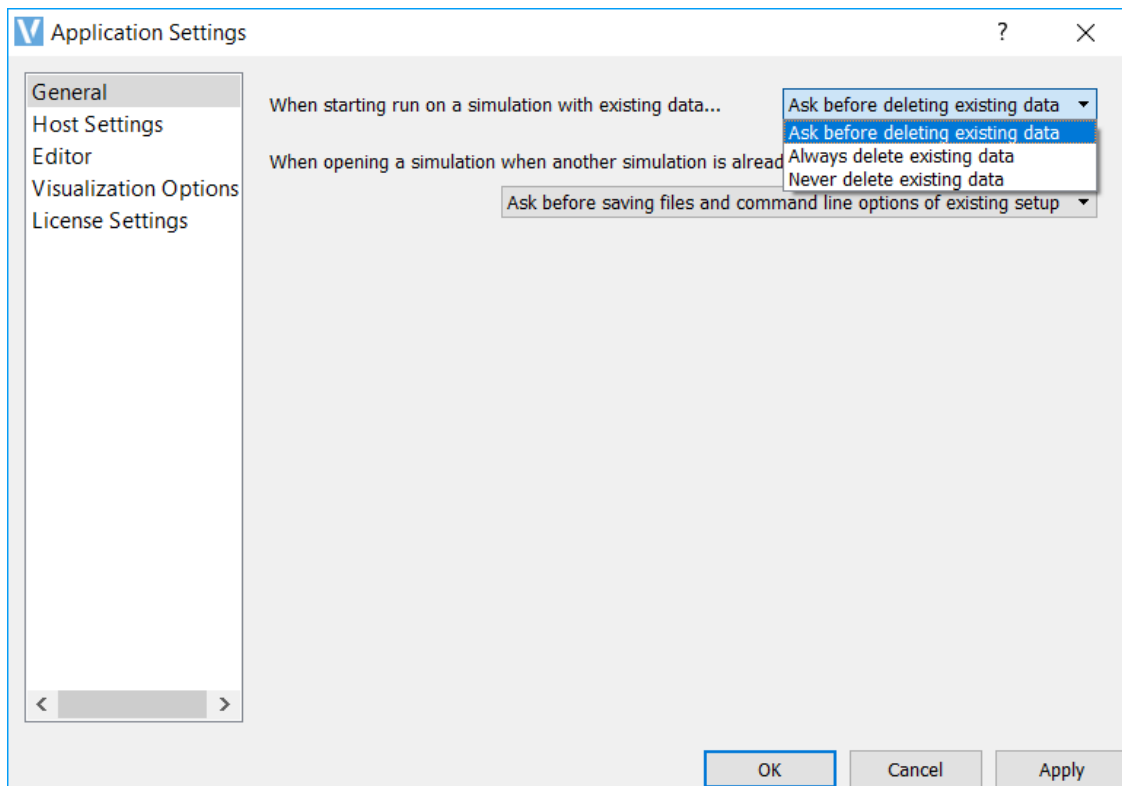

Fig. 4.13: Application Setting When Starting Run on a Simulation with Existing Data
- When starting run on a simulation with existing data, the default setting that VSimComposer will use when starting a simulation that already contains data is *Ask before deleting existing data*. If you know that you will always want to create fresh data for each run, use the pulldown menu to set the default to *Always delete existing data*. If you know that you will always want to run on the data already available, use the pulldown menu to set the default to *Never delete existing data*. See Fig. 4.13.